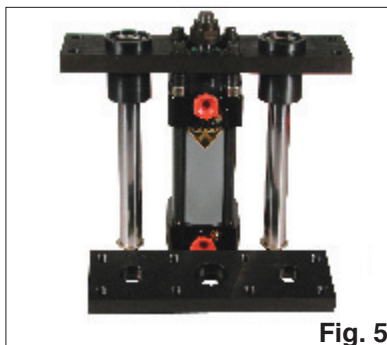

Fig. 5
5. The plate can now be removed and machined as needed (Fig. 5).